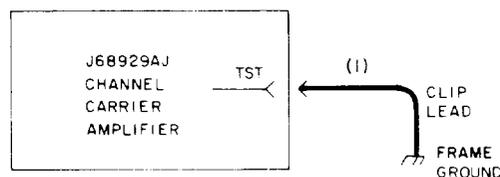

Fig. 25—Connections—Channel-Carrier-Detector-Operation Test—Unprotected Carrier Supply
36	Connect the TST jack on the face of channel carrier amplifier unit 1 to the frame ground [connection (1), Fig. 25].  Note: This connection operates the channel carrier detector without affecting the associated channel carrier.  Requirement: Either the office minor alarm (option X) or office major alarm (option Y), depending on the local office alarm assignment, is activated.